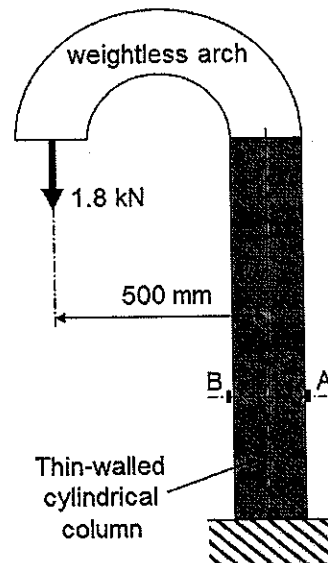

Figure 4
4. A thin-walled cylindrical column carries a weightless arch and is loaded as shown in Figure 4. The column has an internal diameter of 250 mm with a thickness of 2 mm. Given: $E = 200 \text{ GPa}$ and $\nu = 0.3$.